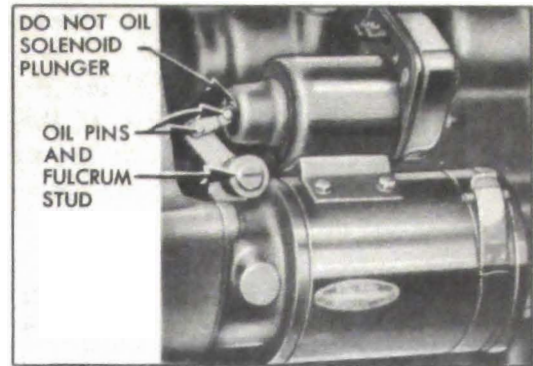

Figure 1-4—Cranking Motor
5. *Cranking Motor (Starter).* Apply a few drops of engine oil to the link pins and fulcrum stud of shift yoke. WARNING: *Do not oil solenoid plunger.* See figure 1-4.